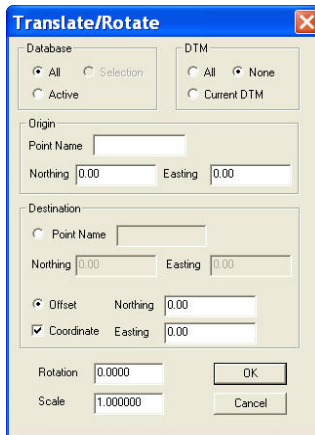

Figure 12-27. Translate/Rotate Dialog Box
1. If no data was selected, click **Survey ► Translate/Rotate** or click the **Translate Rotate**  icon on the **Survey Tools** toolbar. The *Translate/Rotate* dialog box appears (Figure 12-27).